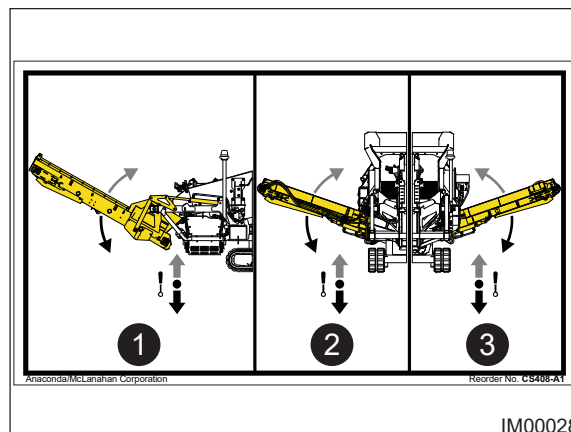

Fig: 10.10 - Control Levers
4. Slow and carefully push UP the control lever (Item 2, Fig: 10.10) to fold the mid-size conveyor.